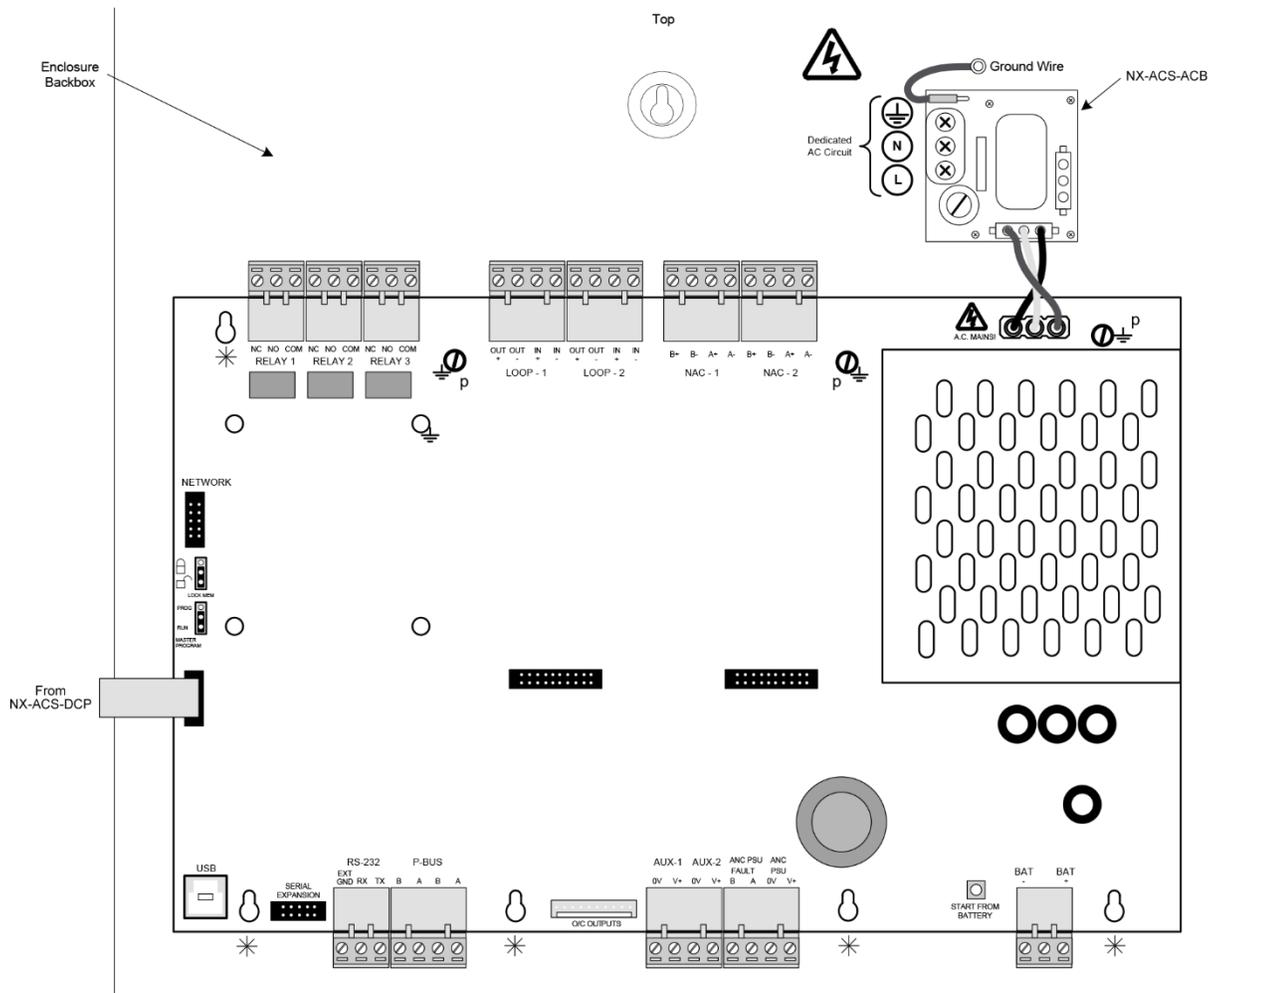

Figure 17 - NX-FACP Base Card
If replacing the NX-FACP base card, remove power (AC and battery) from the system. Remove all field wiring terminal blocks from the NX-FACP and disconnect the Molex connector cable originating from the NX-ACS-ACB board. Disconnect the flat ribbon cable attached to the NX-ACS-DSP, Alphanumeric Graphical Display, and remove the three (3) screws [p] securing the NX-FACP to the back box. Carefully slide the NX-FACP up and off of the five top-hat (screw-less [\*]) standoffs (see figure 17).